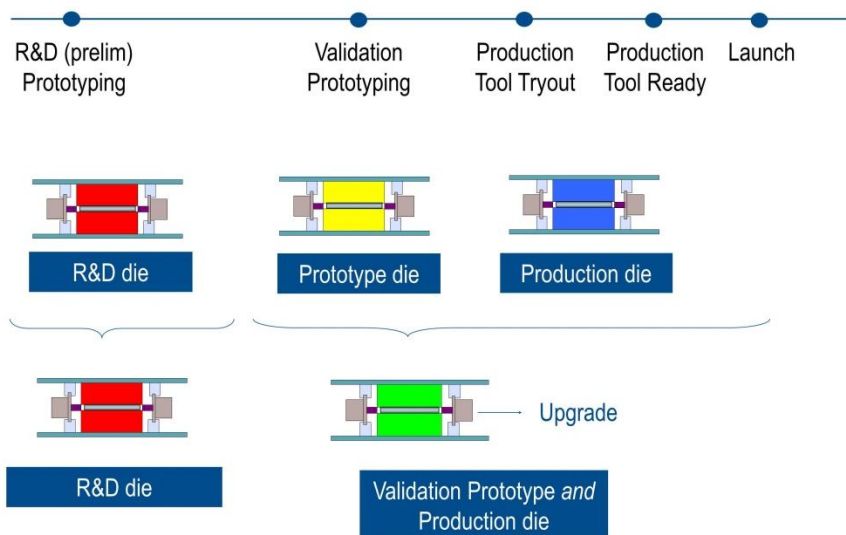

Figure 1: Capitol investment can be reduced by using upgradeable dies to get from R&D to full production.
Capitol investment can be lowered by reducing the number of dies required to get from R&D to full production. By using upgradeable dies, an entire die can be eliminated from the traditional development process (typically three dies: R&D, prototyping and production). To do this, the number of tools used to get to production can be reduced to two dies by building the prototype tool in a way that it can be upgraded to a production tool (see Figure 1).
As an example of capital investment for a global platform, consider a vehicle with six (6) hydroformed dies. Through the use of an upgradeable development die into a production die, there is an overall average cost savings of \$300K per die as compared to the 3-die development shown in Figure 1, and the ultimate savings for the program would be \$1.8M. This can be even more significant if one considers repeat development on a global vehicle program with multiple tier one suppliers.